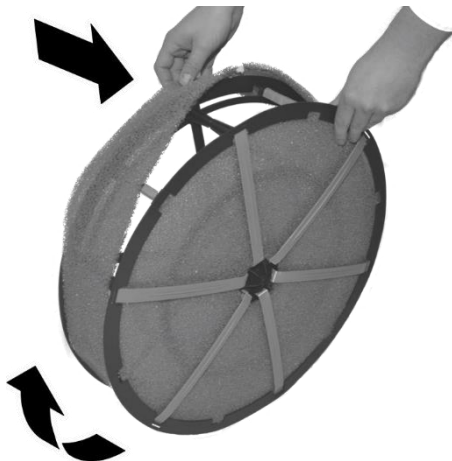

Fig. 27: Covering the outer evaporation filter
10. ➔ Carefully pull the new outer evaporation filter over the filter drum (Fig. 27), it may tear.